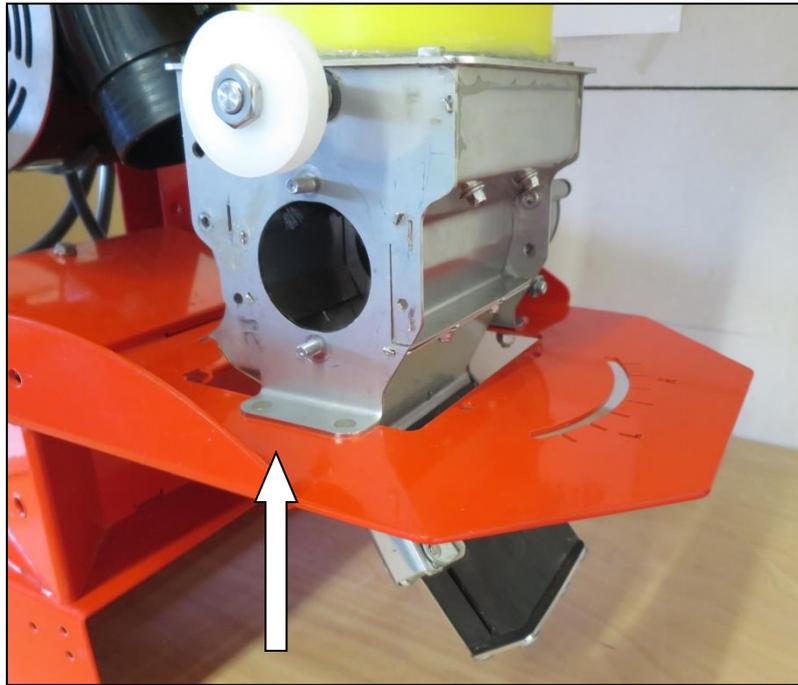

Fig.: 21
- Push the unit with the air channel and the transition pieces from below into the metering unit, as shown in Fig.: 21.